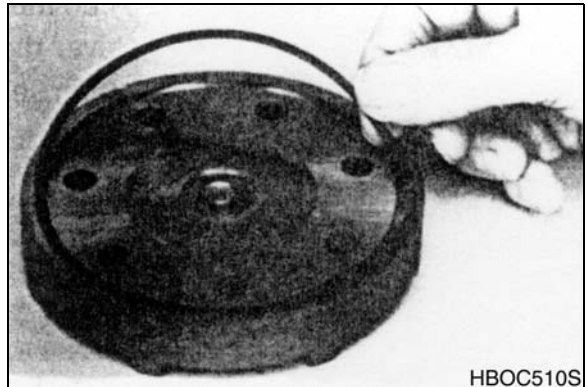
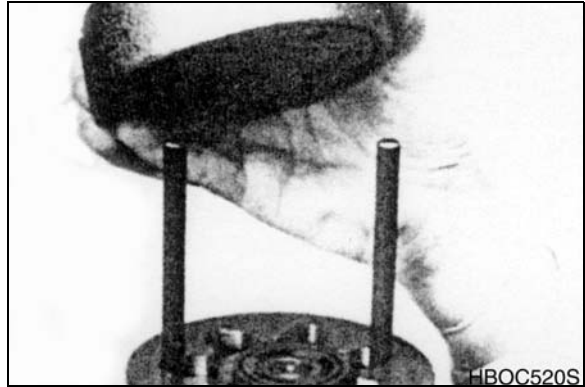
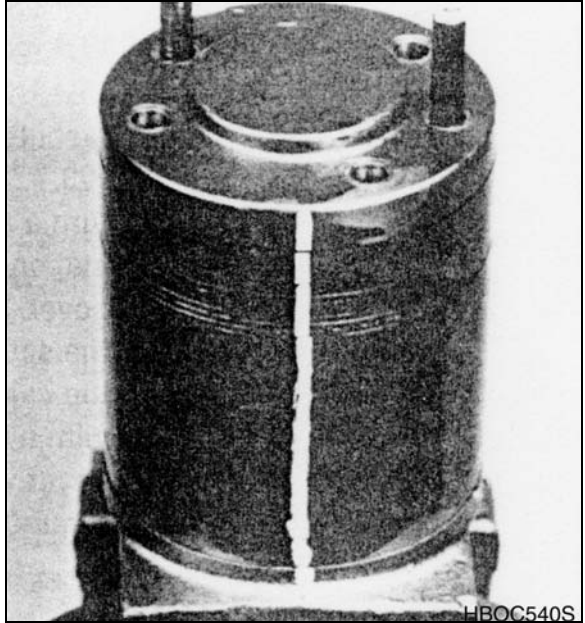

Figure 65
Figure 66
Figure 67
23. Assemble a new seal ring (4) into end cover (2) and assemble end cover over the alignment studs and onto the commutator set. See Figure 65 and Figure 66. If the end cover has only 5 bolt holes be sure the cover holes are aligned with the 5 threaded holes in housing (18). The correct 5 bolt end cover bolt hole relationship to housing port bosses is shown in Figure 67.